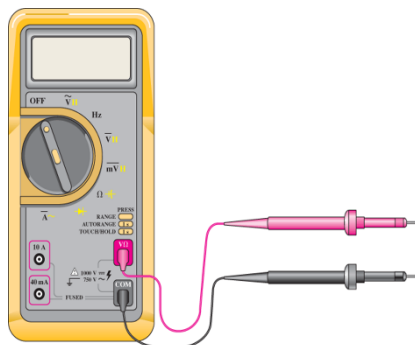

Fig. 1.70 Volt/ohm terminal and common terminal of multimeter
Step 1. Insert the black probe into the common terminal and the red probe into the terminal marked for measuring volts and ohms. Figure 1.70 illustrates that The Digital multimeter has two probes.